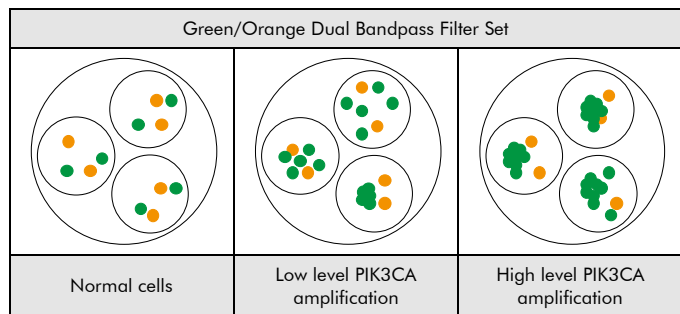

Fig. 2: Expected results in normal and aberrant nuclei
**Normal situation:** In interphases of normal cells or cells without an amplification involving the PIK3CA gene region, two green and two orange signals appear (see Fig. 2).
**Aberrant situation:** In cells with an amplification of the PIK3CA gene region, an increased number of green signals or green signal clusters will be observed (see Fig. 2).